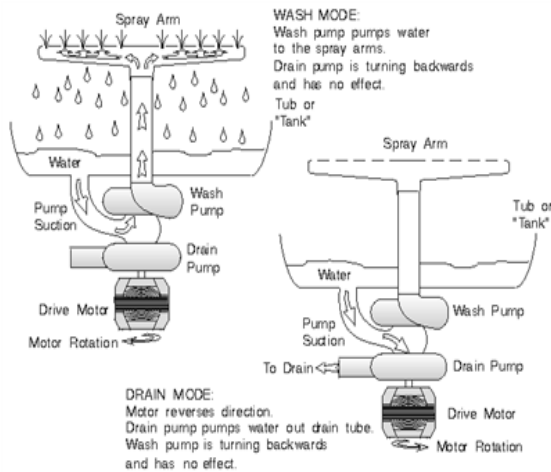

Fig.1.[1]\* Mechanical Work
- Fig.1.[1]\*[https://www.google.com/url?sa=i&url=https%3A%2F%2Fwww.fixya.com%2Fsupport%2Ft12707527-door\\_detergent\\_holder\\_bosch\\_dishwasher&psig=AOvVaw3\\_hUwMGdkx-EMsYV7ScYt9&ust=1599643149670000&source=images&cd=vfe&ved=0CA0QjhxqFwoTCID\\_5amd2esCFQAAAAAdAAAAABAK](https://www.google.com/url?sa=i&url=https%3A%2F%2Fwww.fixya.com%2Fsupport%2Ft12707527-door_detergent_holder_bosch_dishwasher&psig=AOvVaw3_hUwMGdkx-EMsYV7ScYt9&ust=1599643149670000&source=images&cd=vfe&ved=0CA0QjhxqFwoTCID_5amd2esCFQAAAAAdAAAAABAK)